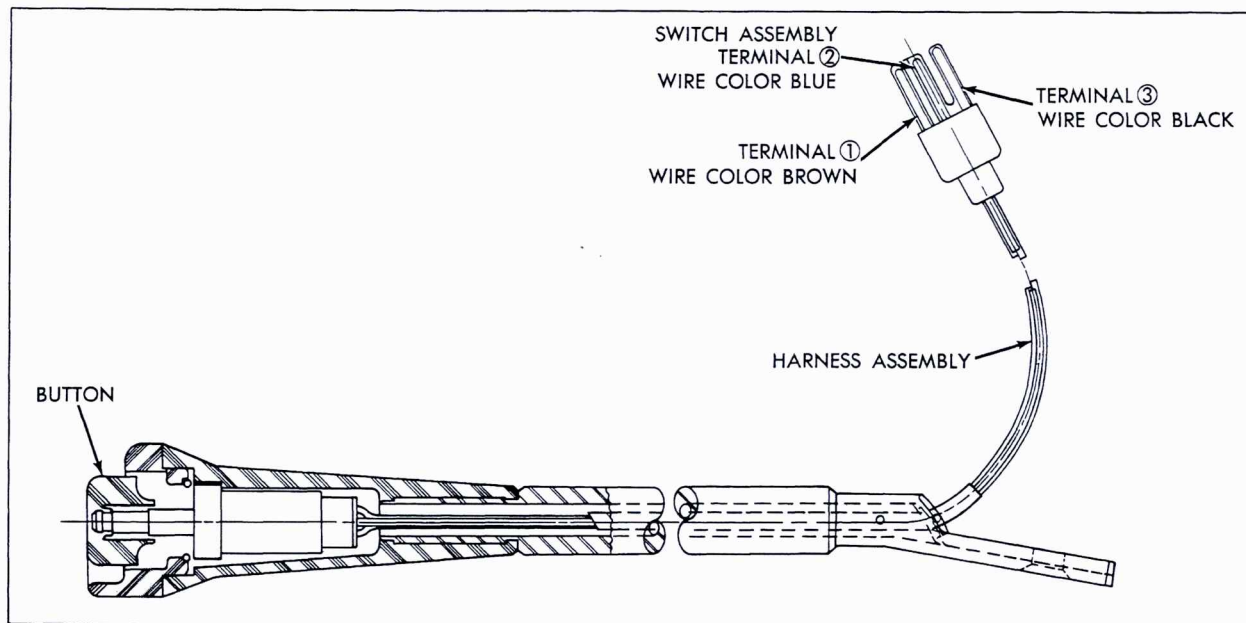

Fig. 15-27 Engagement Switch - Vacuum Cruise
30. Engagement Switch (Fig. 15-27)